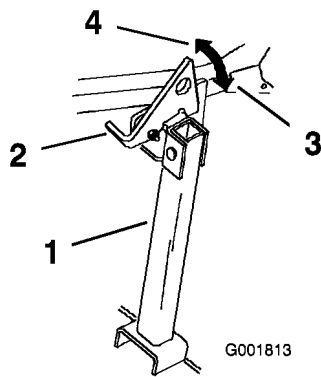

Figure 29
2. Raise the latch to the unlocked position (Figure 29).